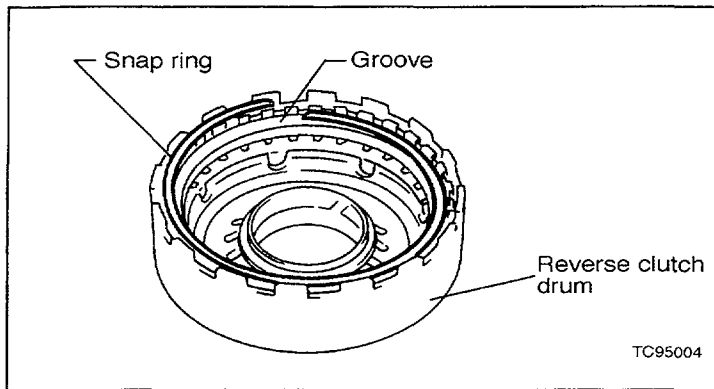

Figure 1
3. Perform a line pressure test using Kent-Moore J34301-C A/T pressure gauges. If the snap ring has popped out (refer to Figure 1), the line pressure in reverse will be low or zero.